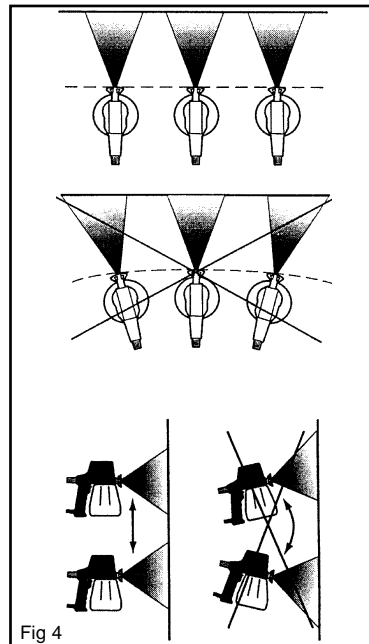

Fig 4
up or down 25-30cm (10"-12") from the surface. Avoid spraying at an angle as this will lead to runs on the surface (fig 4).
2. Let your arm control the left to right movement rather than your wrist as this will aid even paint distribution over the whole area (fig 4).